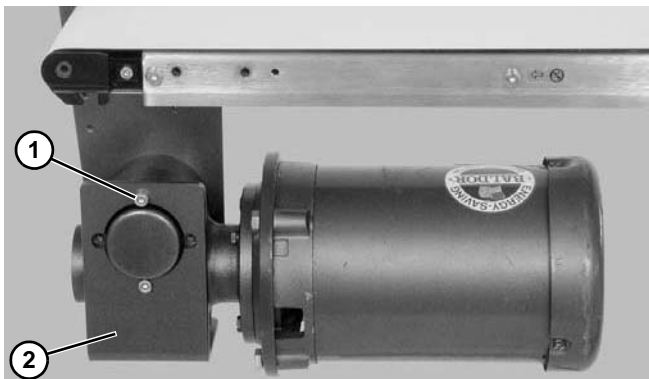

Figure 35
3. Remove two (2) bracket screws (**Figure 35, item 1**) and remove bracket (**Figure 35, item 2**).